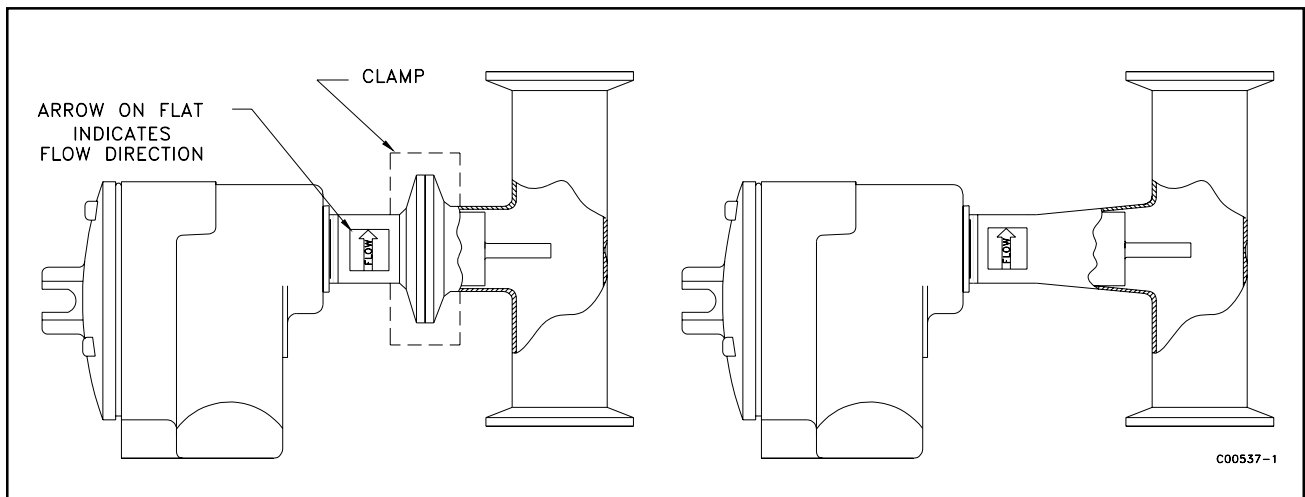

Figure 2-4. FLT93-C Sanitary Flow Elements (RC and CIP Respectively)
The instrument is inserted into the process connection with a removable clamp fittings. The Removable Clamp (RC) sanitary assembly contains a removable clamp connection to the flow element. The Clean-In-Place (CIP) sanitary assembly has the flow element directly welded into the process stand pipe. Otherwise these instruments function exactly the same as an FLT93-F or FLT93-S. See Appendix A for an outline dimensions of the instruments. Figure 2-4 also shows the sanitary assemblies.